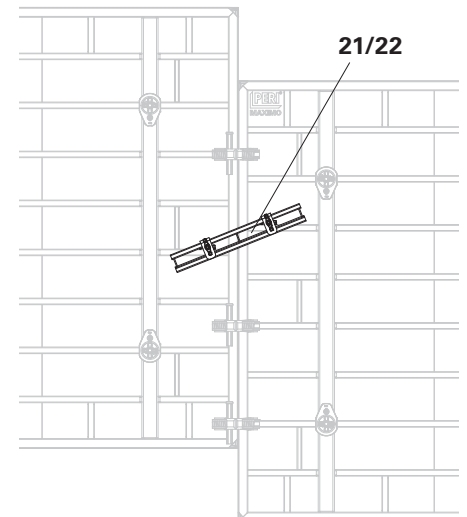

Fig. A4.06a
- offset struts, see Fig. A4.06a.